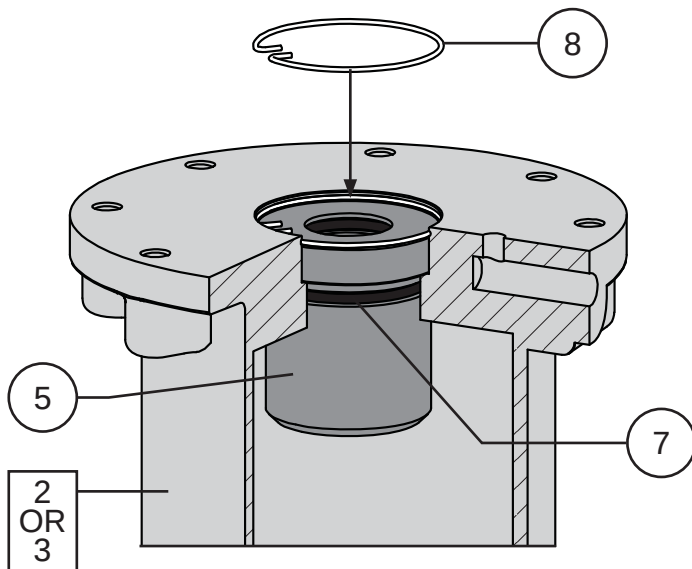

Figure 22 Bushing Assembly Installation
- 3 Install the bushing assembly into the yoke (Key 2) as shown in Figure 22. **NOTE:** For size 3220-4 actuators, install the bushing assembly into the top of the spring case adapter (Key 3).
- 4 Secure the bushing assembly in place by installing the snap ring (Key 8) into the groove in the top of the yoke (Key 2) or spring case adapter (Key 3). Refer to Figure 22.